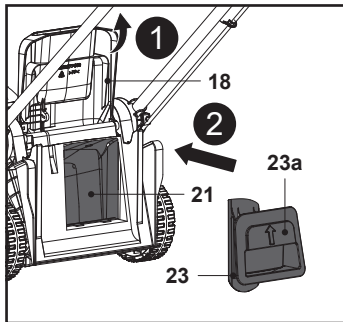

Fig. 15
1. Open the rear deflector guard (18), hold the recess handle (23a) in position and insert the mulching insert (23) into the rear discharge chute (21) all the way to the end (Fig. 15).